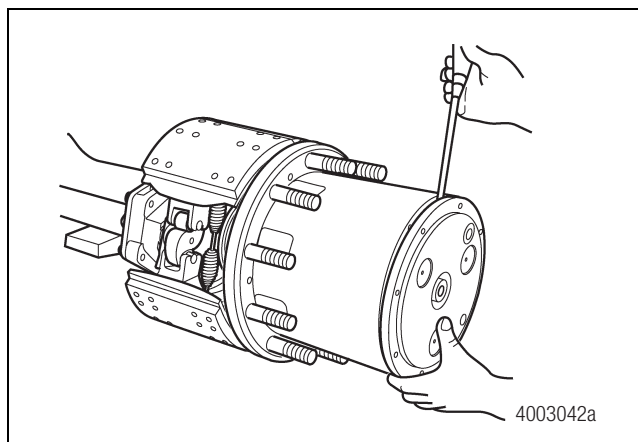

Figure 3.6
4. Remove the planetary spider assembly from the hub. **Do not hit the assembly with a hammer.** Use a screwdriver or other suitable tool to help with removal. Figure 3.6.